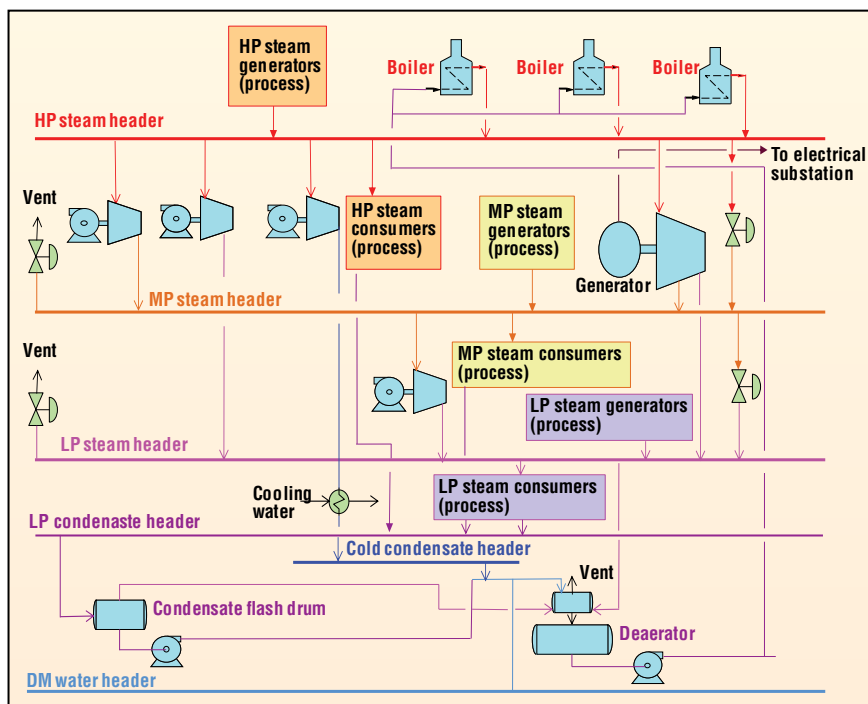
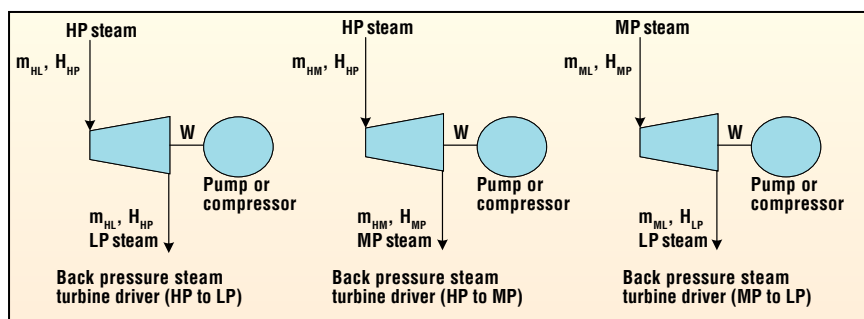

FIGURE 1. A typical petroleum refinery steam network features equipment such as turbines, generators, boilers and supply headers
FIGURE 2. There are three different types of back-pressure steam-turbine drivers, based on their configuration relative to steam supply headers
FIGURE 1. The most popular types of calculations are related to the sizing of lines, tanks, vessels, pumps, compressors heat exchangers and PSVs. This figure shows these general items and their variations
Petroleum refineries generate power from a number of sources, including cogeneration plants and steam networks. Generally, steam networks use turbines to improve operational reliability, specifically as drivers for rotating equipment. Due to increasing energy costs, it is essential to maximize the power-generation capabilities of steam networks. This article presents a spreadsheet-based optimization model for a steam network. Figure 1 shows a typical steam network in a petroleum refinery.
steam network shown in Figure 1 includes a number of supply headers, including ones for low-pressure (LP), medium-pressure (MP) and high-pressure (HP) steam, as well as demineralized (DM) water. Turbines are installed between these steam-supply headers, in different configurations depending on power requirements, as well as refinery steam and electricity balances. Pressure-control valves are used to depressurize the steam and to vent any excess steam to the atmosphere. Steam turbines have two basic classes — back-pressure and condensing, which are shown in Figures 2 and 3, respectively. Furthermore, back-pressure steam turbines have three types of configurations based on their place-
ment relative to the LP, MP and HP steam headers (Figure 2). See the "Nomenclature" section for definitions of symbols and abbreviations that will be used throughout the article.